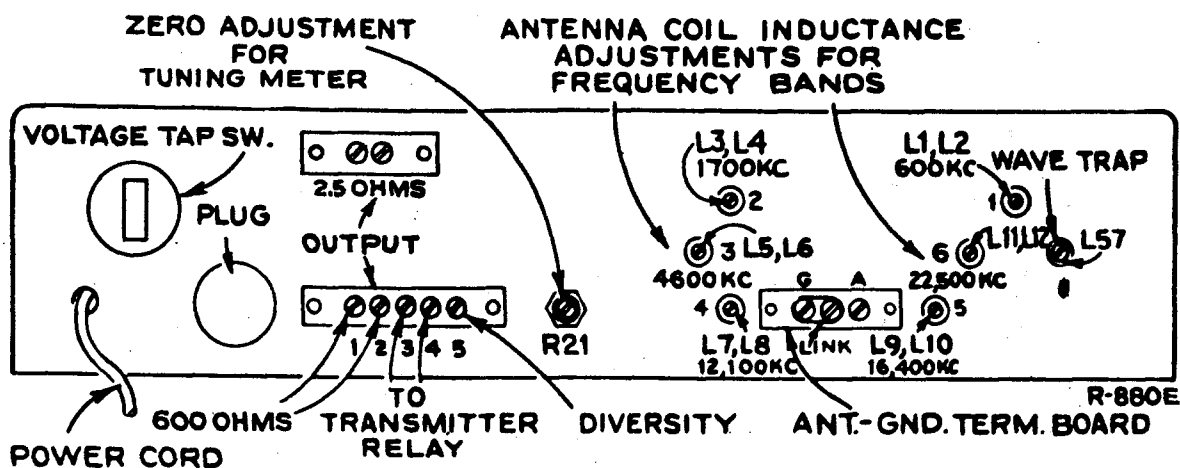

Figure 3—Diagram of Rear of Chassis
The antenna terminal board is provided with three terminals (see Figures 3 and 6), two of which may be joined together with a link. When a single wire antenna is used, the link should be closed and the antenna connected to "A." If a ground is used, it should be connected to "G." If a transmission line or balanced input is used, the link should be opened and the line connected to terminal "A" and the center terminal.
**Power Pack** — The power pack mounted on the receiver chassis consists of a power transformer, rectifier tube RCA-5Y3GT, and filter. A tap switch is provided on the rear apron for changing the power transformer voltage tap. (See Figures 3 and 6.) The voltage for which the switch is set may be read directly on the switch. The instrument may also be operated from 6V. "A" and 250 to 300 V. "B" batteries, or Vibrator Power Supply Unit MI-8319.
**Speaker**—Terminals for connection of a loud-speaker are indicated in Figures 3 and 6. The output transformer is designed to match a speaker having 2.25 ohms impedance.
2. Transmit position which gives energized tube filaments, open plate circuits, and shorted terminals for transmitter relay on the speaker terminal board on the back of the chassis. Connect relay to these two terminals for transmitter operation. See Figure 3.
**Diversity Reception** — Connect together the terminals marked "diversity," Figure 3, on two or three of these receivers, and equip each receiver with a separate antenna. The "diversity" terminal is connected inside the receiver to the AVC circuits. Tune as explained.
detector. It controls the first and second R-F and first and second I-F tubes. The tuning meter is connected in the cathode circuit of the 1st I-F tube and thus records changes in cathode current caused by changes of AVC voltage applied to the grid. The tuning meter should normally give a low scale reading when no signal is being received. To adjust this meter, tune the receiver to a point free of signals, turn the sensitivity control to maximum, switch in AVC, switch crystal "Out," have antenna trimmer turned off resonance, and then adjust the potentiometer R21 at the back of the receiver, as shown in Figure 3, until the meter pointer just coincides with the mark at the low end of the scale. The meter will usually rise slightly when the antenna trimmer is tuned to resonance.